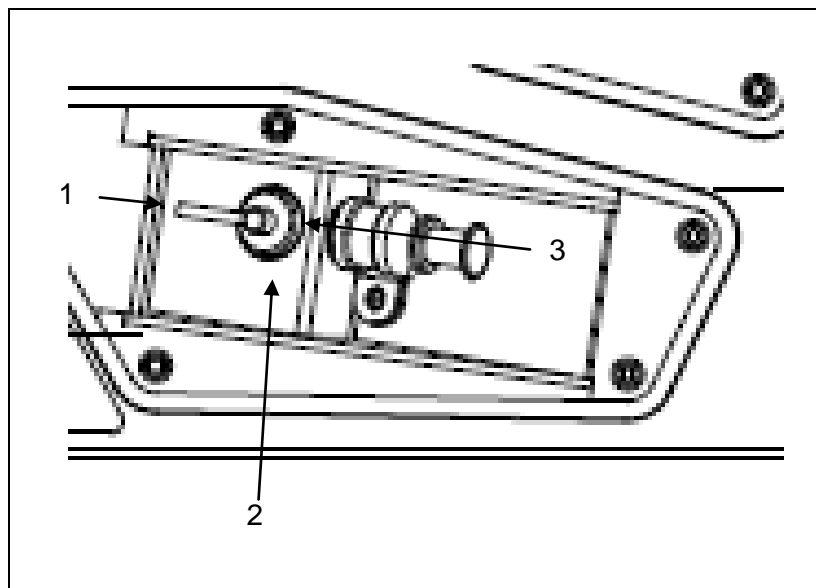

Fig. 5-12: 3-way fuel valve
3. Set the fuel cock to the internal tank (*Fig. 5-12-(2)*).
8. Set the fuel cock to “external fuelling” (*Fig. 5-12-(3)*).